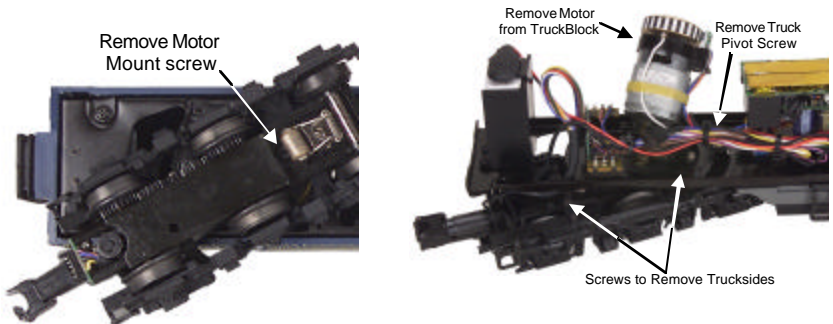

Figure 11. Locations of Truckside Mounting Screws for the rear trucks.
2. Remove the truck from the chassis by removing the mounting screws shown in Fig. 11.
3. Remove the truck sides by removing the screws shown in Fig 11.